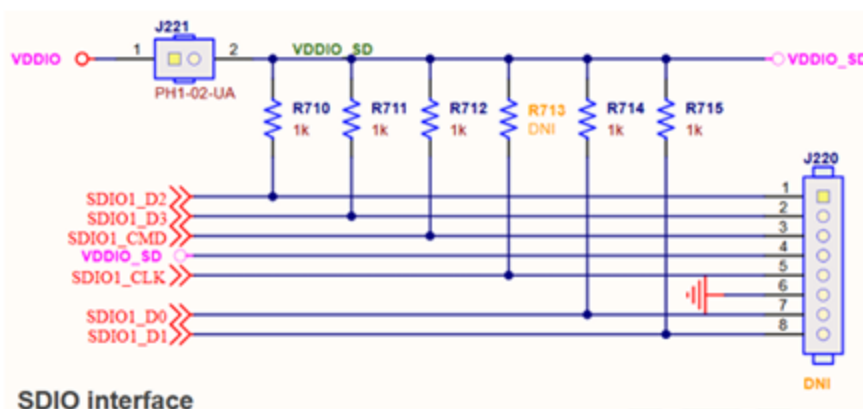
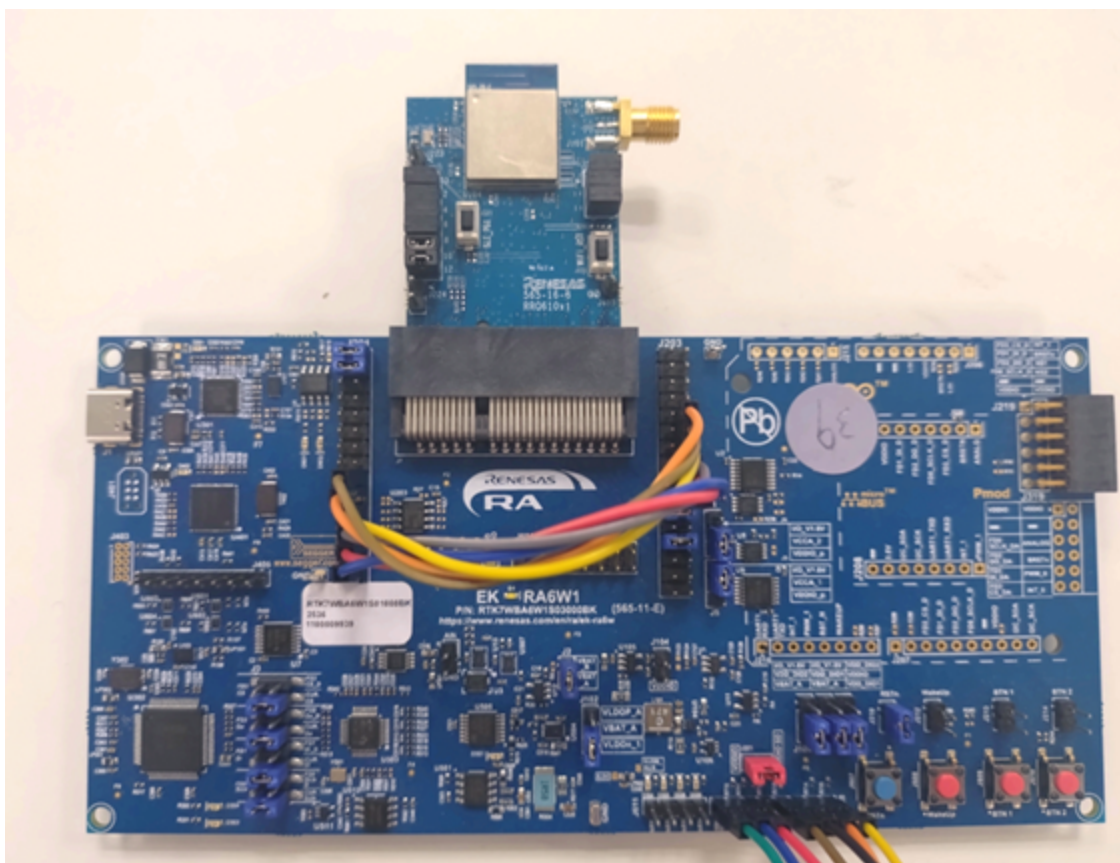

Figure 28. SDIO connector on RA6W1/RA6W2 EVK
Figure 29. Pin connection of J201 and J203 in RA6W1/RA6W2 EVK for SDIO interface
- Short J221: The signal line shown in Figure 28 is connected to the J203 on the RA6W1/RA6W2 EVK. Table 10 shows required connection between J201 and J203, and Figure 29 shows actual connection.